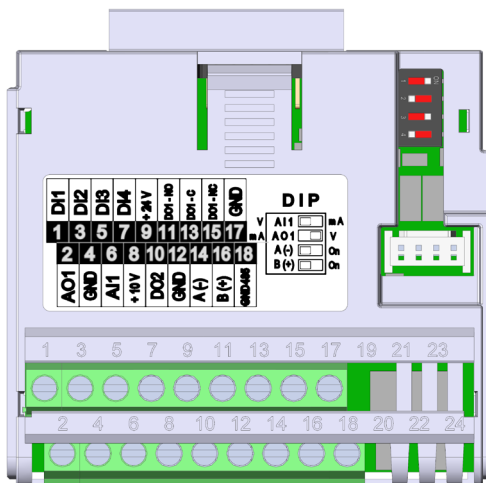

Figure 19.1: Plug-in module CFW500-IOS
The CFW500-IOS plug-in module has only Serial (1) interface through RS-485 port at terminals 14 (A-) and 16 (B+), see Figure 19.1 on page 19-1. See also, the GND485 on terminal 18 is isolated from GND on terminals 17 and 4.